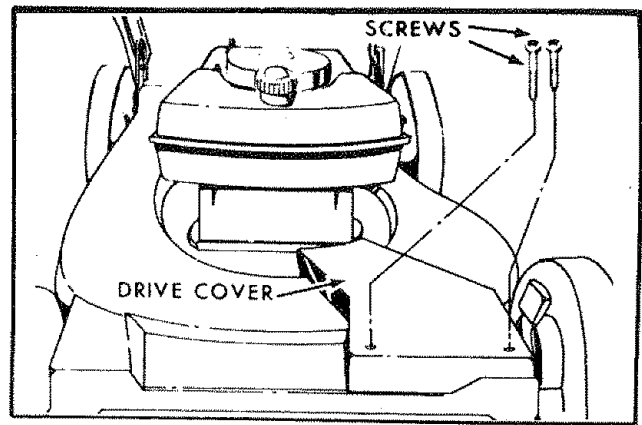

FIG. 16
2. The drive belt is spring-loaded at the gear case to maintain proper belt tension. Keep the area around the gear case clear of trash by removing drive cover and cleaning (See Fig. 16 and 17).
1. Remove the drive cover by removing the two (2) screws (See Fig. 16).
1. To adjust, remove the drive cover by removing two (2) screws. Keep for re-use (See Fig. 16).
- a. Remove the drive cover by removing the two (2) screws (See Fig. 16). Keep for re-use.